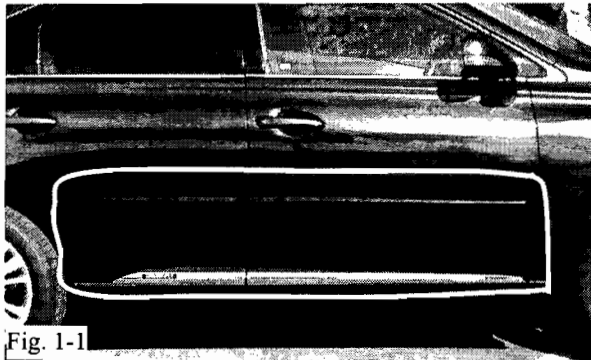

Fig. 1-1
- (c) Saturate a clean lint-free cloth with 3M™ Prep Solvent-70 and clean the areas of each door as shown in Fig. 1-1.